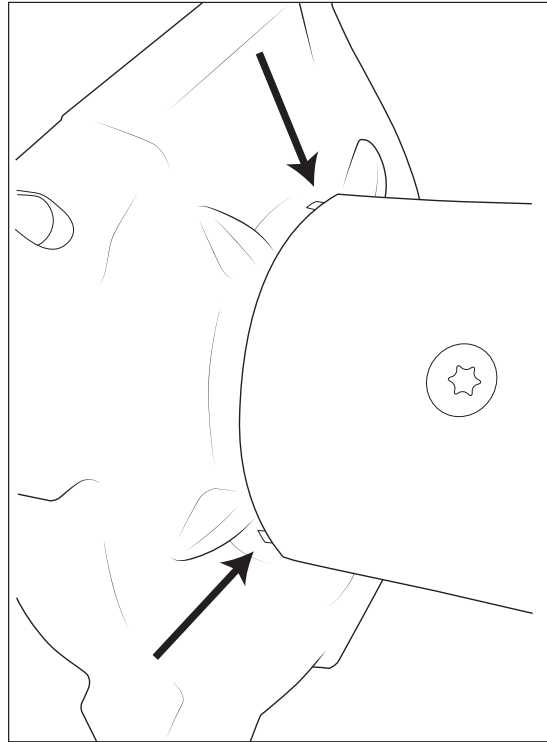

Figure 15
6. Plug the upper two (2) slots where the winch motor meets the winch with silicone (fig. 15).